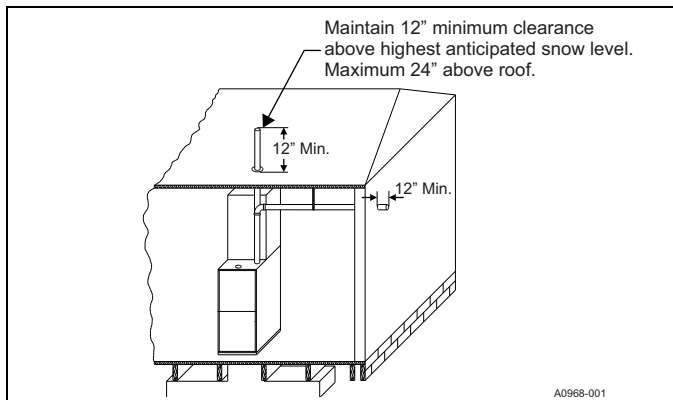
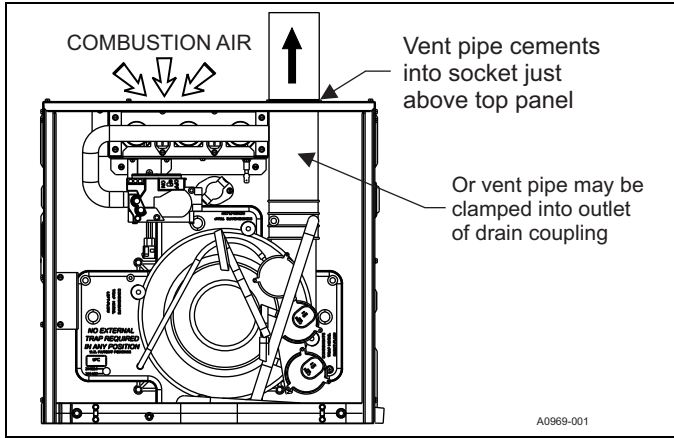

Figure 29: Termination configuration - single pipe
Figure 36: Combustion airflow path through the furnace casing
The combustion air side of the single-pipe configuration shown in Figure 36 is referred to in these instructions as ambient combustion air supply. Follow the instructions for *ambient combustion air* installations, paying particular attention to the section on air source from inside the building. The vent for a single-pipe system must be installed as specified in the venting section of these instructions with both vents terminating as shown in Figure 29. Each furnace must have a separate vent pipe. **Under no circumstances** can the two vent pipes be tied together.
2. **Ambient combustion air:** Combustion air is supplied from the area surrounding the furnace through openings in the furnace casing. The combustion air and the vent pipes are not terminated in the same atmospheric zone. See Figure 29 for vent terminations. See *Ambient Combustion Air Supply* for correct installation. See Figures 36 and 37.